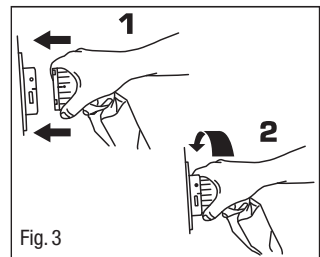

Fig. 3
5. Attach the air supply hose to the power unit by aligning the black line on the air supply hose connector with the black line on the power unit connector and pushing together. Rotate the mattress hose connector clockwise until the green indicator fills the indicator hole on the power unit connector (Fig. 3).